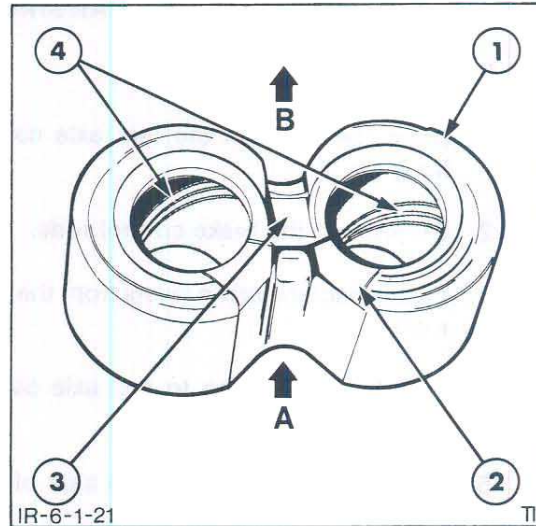

Figure 21
2. Examine each bearing for wear on the face and in the bore. Pay particular attention to the condition of the lubrication scrolls and the seal bridge, Figure 21. At the stage of major overhaul, bearings should be renewed but light score marking may be removed by polishing as follows: